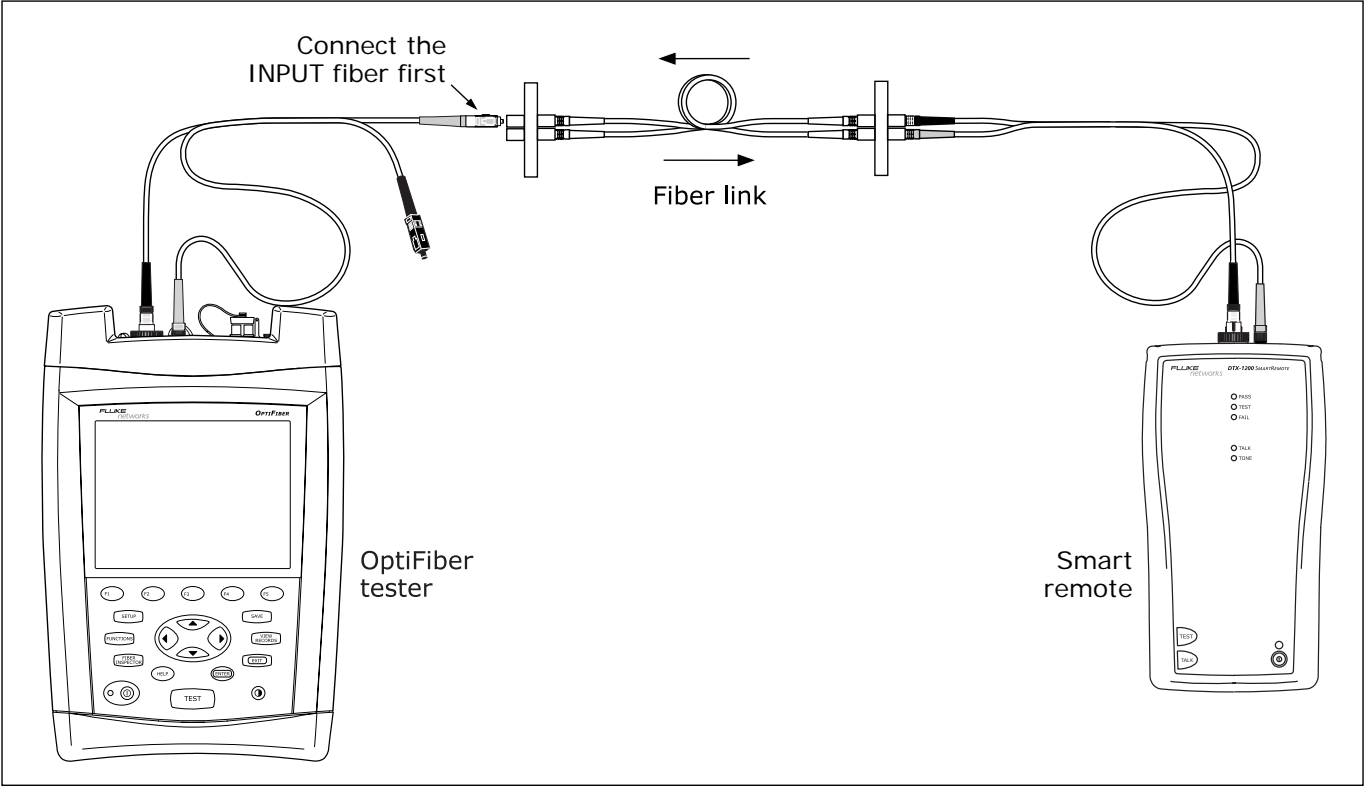

Figure 7-15. Using FindFiber in Smart Remote Mode
- 2 Clean the tester's and source's **OUTPUT** connectors and the reference test cord connectors; then make the connections shown in Figure 7-15.